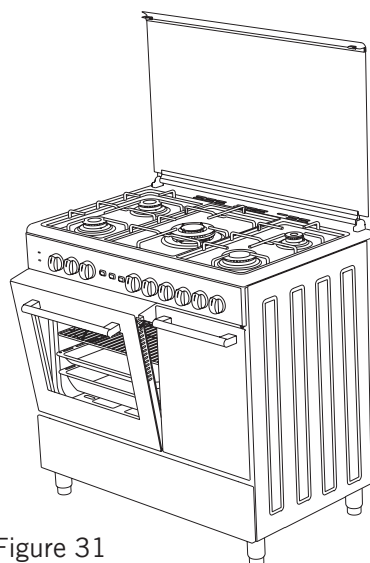

Figure 31
4. And then secure the safety panel in between oven and front cover by gently closing the cover. (Figure 31)